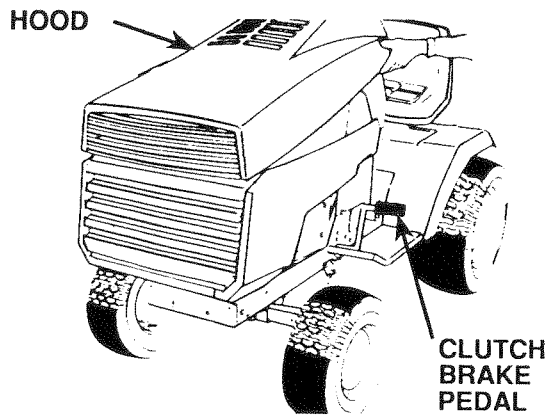

FIGURE 2
- Lift Hood from rear sides (Fig. 2).